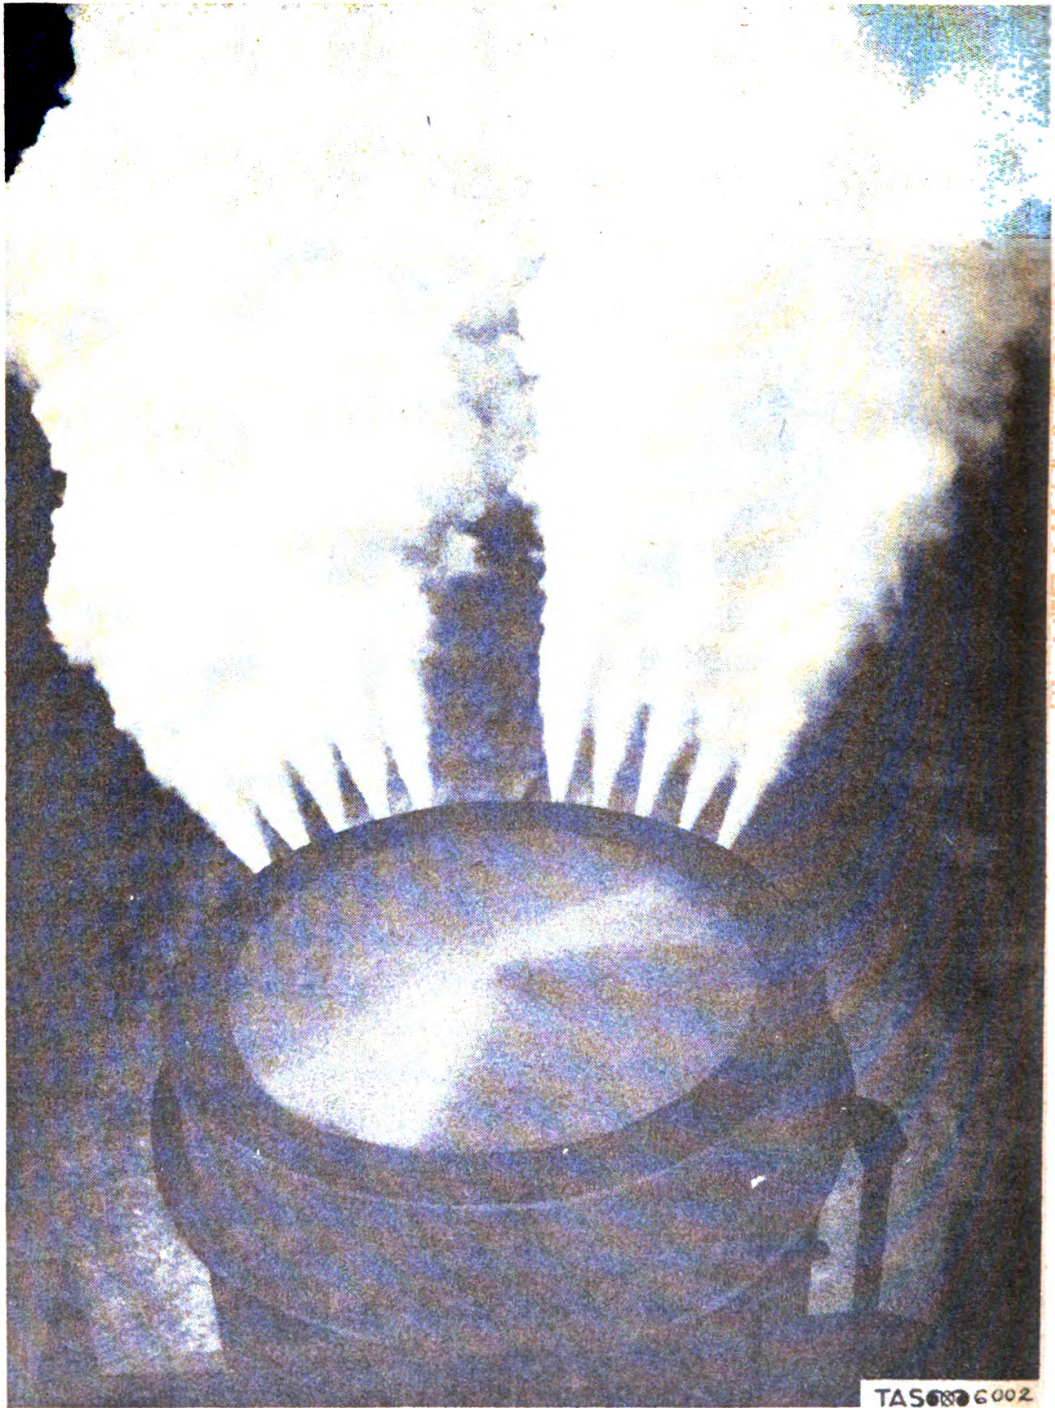

Fig. 2. Generator Making Smoke.
2. **PURPOSE AND USE OF GENERATOR.** a. Purpose. The generator is designed to throw into the air a dense streamer of white smoke. (See fig. 2.)